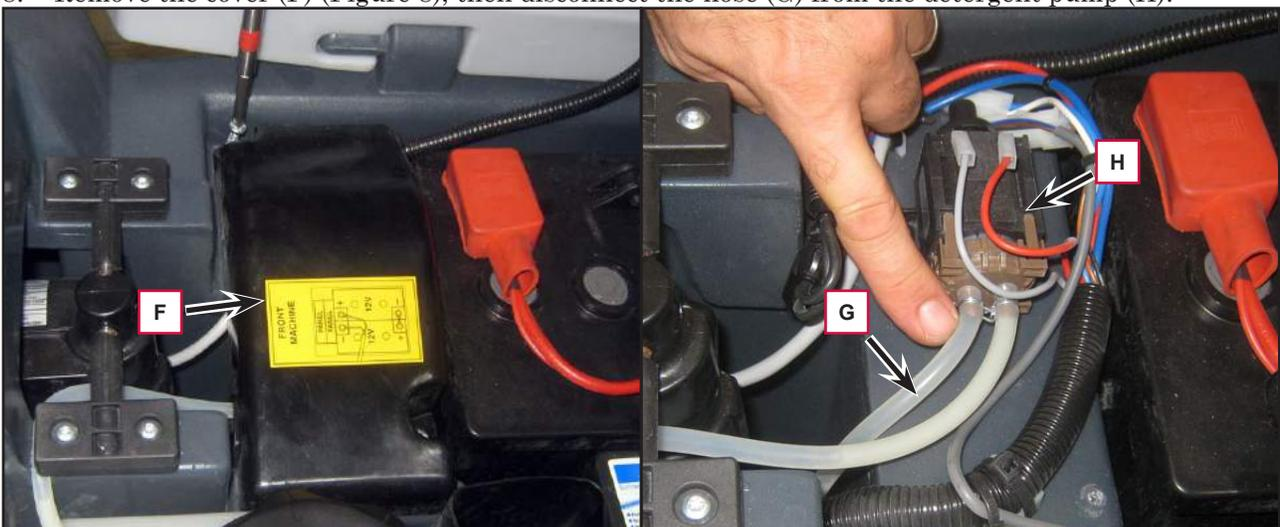

Figure 8
8. Remove the cover (F) (Figure 8), then disconnect the hose (G) from the detergent pump (H).